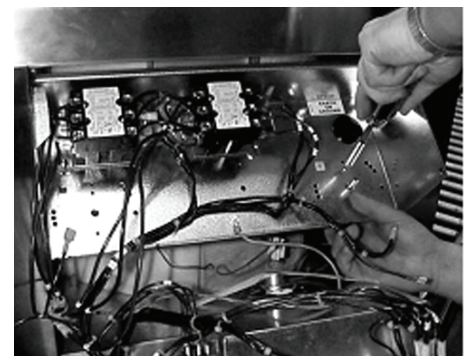

Figure 18
- G. Line up the two mounting holes in each side of relay panel with holes in side panels of fryer and insert the four sheet metal screws securing panel in position (see figure 18).